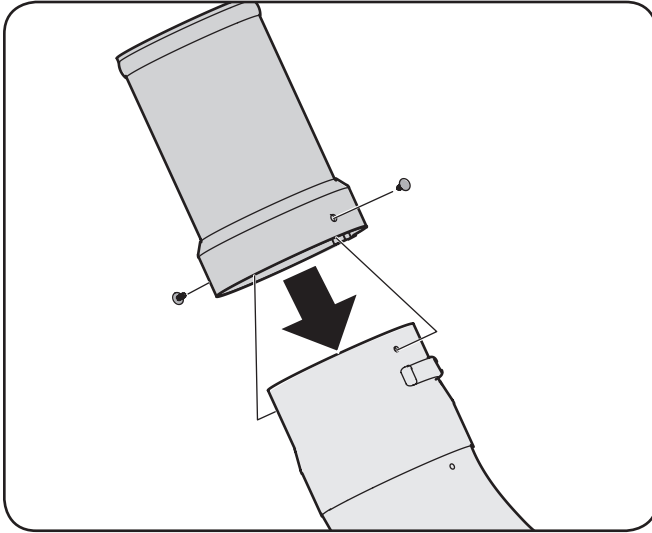

Figure 4-23
7. Install the chute adapter onto the chute elbow by lining up the tabs and sliding the adapter over the chute elbow, as in Fig. 4-23. Secure the chute adapter by installing the two ratchet clips included in the hardware pack into the holes provided.